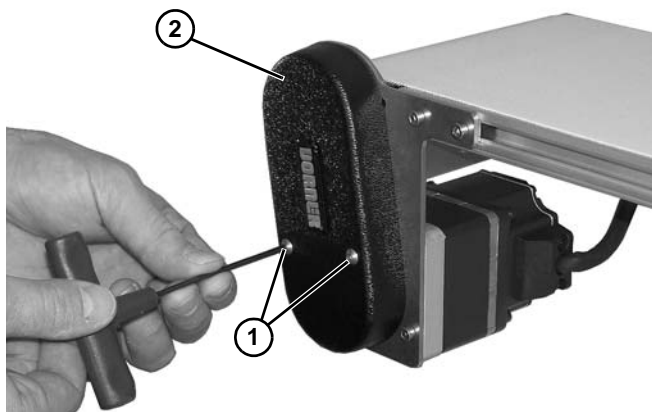

Figure 12
7. Remove two (2) screws (Figure 12, item 1) and remove cover (Figure 12, item 2).